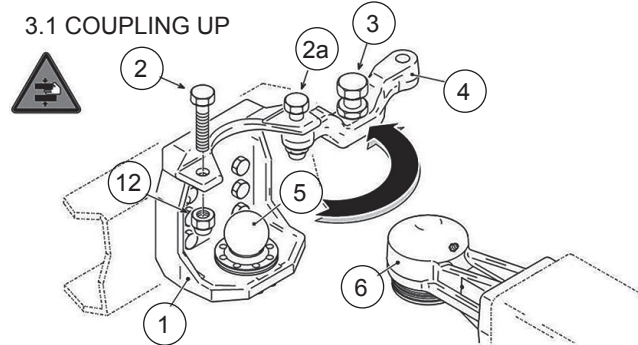

Figure 20
Rotate the safety cover bar (4) outwards so that it is completely open. (Figure 20)
Reverse truck very slowly until the ball cup drawbar eye (6) is in position exactly above the drawbar coupling ball (5). (Figure 20)
Lower the drawbeam until the ball cup drawbar eye (6) lies completely covering the drawbar coupling ball (5). (Figure 20).
Tighten in both the lock screws (2, 2a) together with their relative self-locking nuts (12) at a 350 to 400 Nm torque wrench setting. (Figure 20)
Loosen safety lock screw (2a) and remove safety lock screw (2) together with its self-locking nut (12). (Figure 20)
Rotate the safety cover bar inwards (4) until it lodges back in its housing. (Figure 20)
Fit in safety lock screw (2) and tighten in self-locking nut (12). (Figure 20)